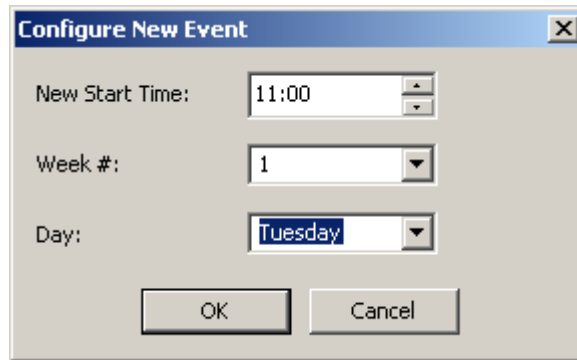

Figure L3.6 - Configure New Event: Create Copy
22. In the Configure New Event dialog, change the Day to “Tuesday” as shown in Figure L3.6 and click on OK.